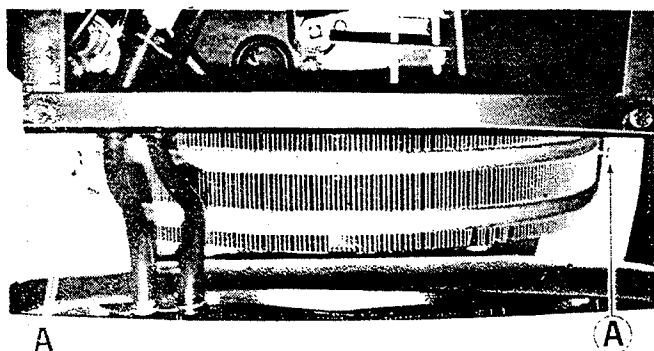

Figure 9. Transmission oil cooler as seen from above tractor.
2. See figure 9. Remove the screws (A) at each end of the transmission oil cooler and raise the left end of it to expose the main drive belt tension adjustment.